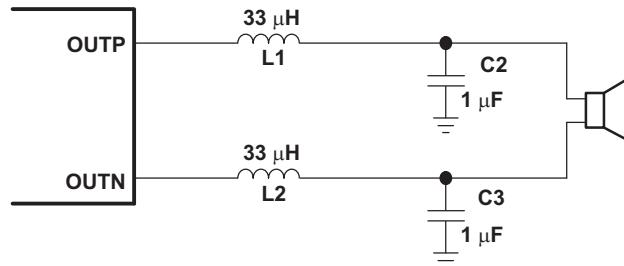
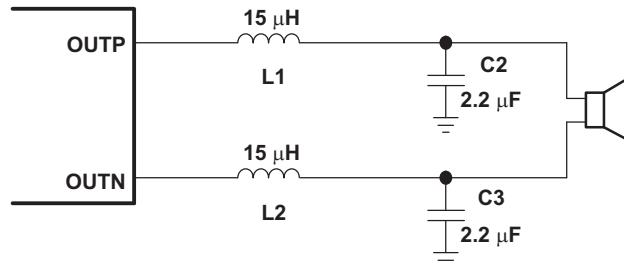
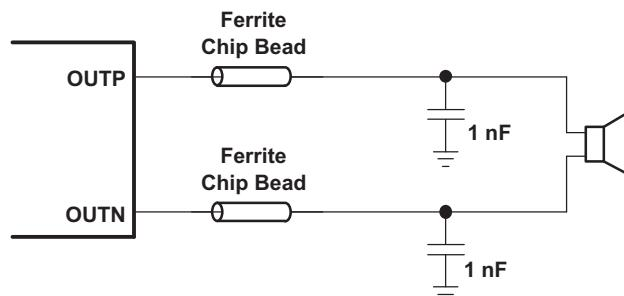
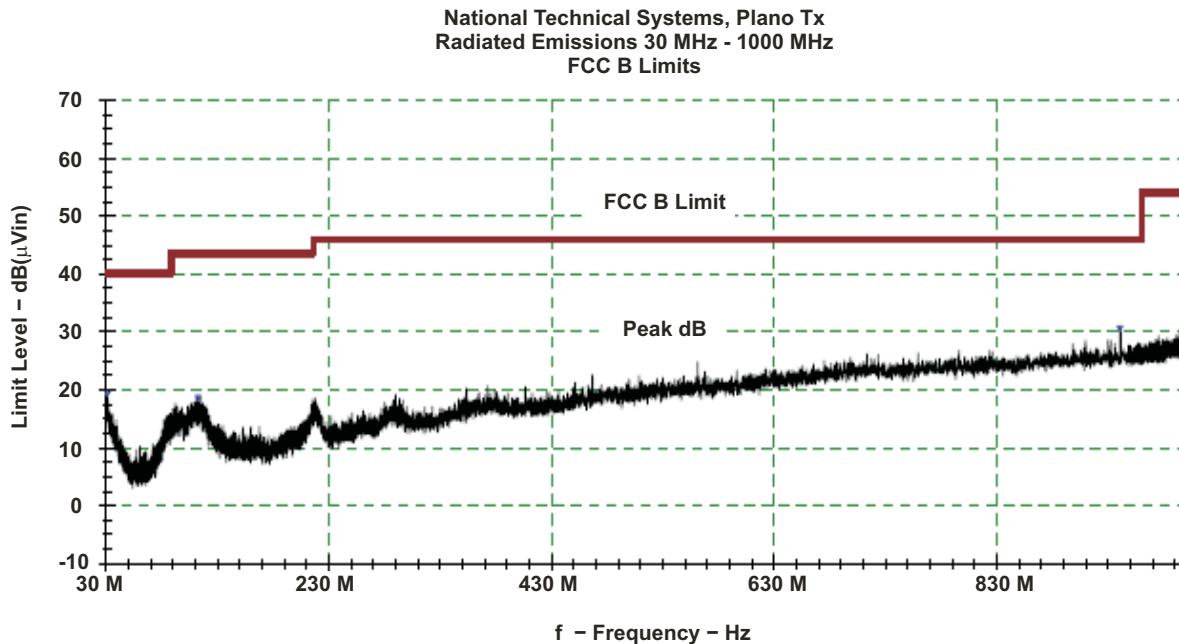

Figure 27. Typical LC Output Filter, Cutoff Frequency of 28 kHz, Speaker Impedance = 8 Ω
Figure 28. Typical LC Output Filter, Cutoff Frequency of 28 kHz, Speaker Impedance = 4 Ω
Figure 29. Typical Ferrite Chip Bead Filter (Chip Bead Example: Fair-Rite 2512067007Y3)
Figure 30. Radiated Emissions Prescan 30 MHz - 1000 MHz
Using the LC filter in Figure 27, the TPA3101D2 EVM passed the FCC Part 15 Class B radiated emissions test with 21 inch speaker wires. Quasi-peak measurements were taken for the 4 standard test configurations, and the TPA3101D2 EVM passed with at least 14-dB margin. A plot of the peak measurement for the horizontal rear configuration is shown in Figure 30.
- **Output filter**—The ferrite EMI filter (Figure 29) should be placed as close to the output terminals as possible for the best EMI performance. The LC filter (Figure 27 and Figure 28) should be placed close to the outputs. The capacitors used in both the ferrite and LC filters should be grounded to power ground. If both filters are used, the LC filter should be placed first, following the outputs.